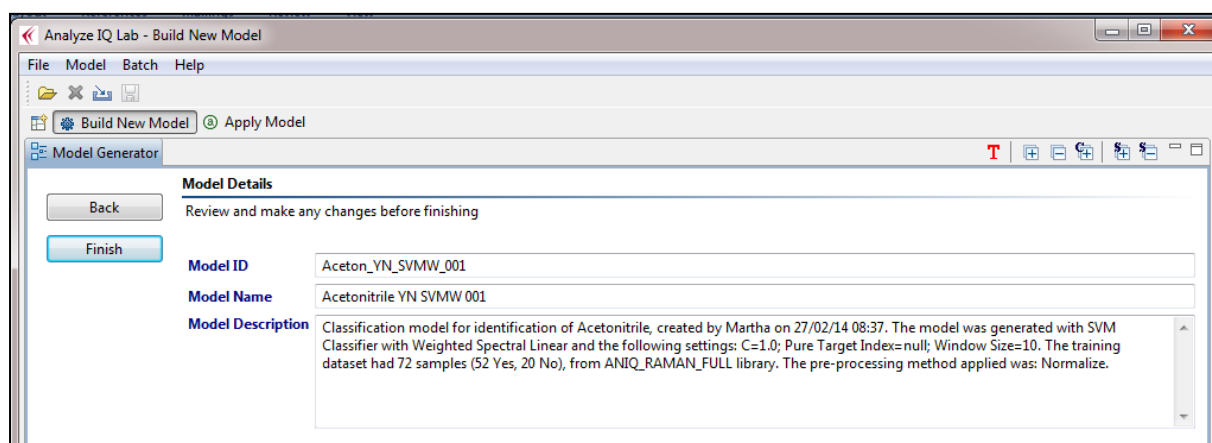

Figure 71: Enter model details
After evaluating the selected classification or quantification method, click on the *Next* button to move to the next step, in which the new model details will be shown, as shown in the example in Figure 71.
- **Model ID:** This is the unique identifier for the new model. If a model already exists with the same Model ID, you will be prompted to enter a different name. Note that the following characters are allowed in the Model ID: 'A'-'Z', 'a'-'z', '0'-'9', '_' and '.' For example "Cocaine_Model1" is valid Model ID, whereas "Cocaine Model1" is not, as it contains a space. In addition "WSLinearSVM_Acetonitrile" is not valid, as a model with this ID already exists. In the example in Figure 71, we have gone with the default Model ID, "Aceton_YN_SVMW_001".